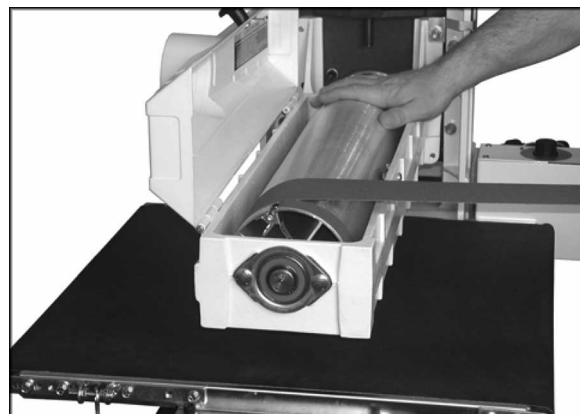

Figure 10
4. Continue to wrap the abrasive in a spiral fashion by rotating the drum with one hand and guiding the strip with the other (Figure 10).